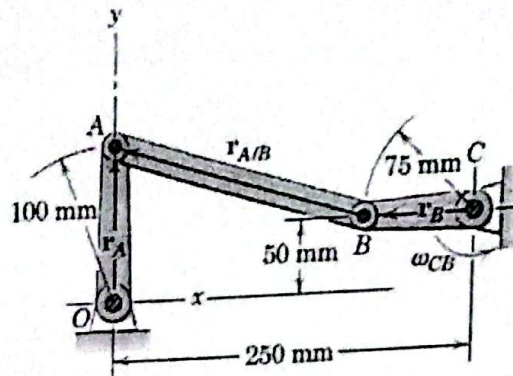

Figure 4. Ripple effect of Cranks pinned at C and O .
- Q4:** Crank CB oscillates about C through a limited arc, causing crank OA to oscillate about O as shown in Fig. 4. When the linkage passes the position shown with CB horizontal and OA vertical, the angular velocity of CB is 2 rad/s counterclockwise. For this instant, figure out the angular velocities and angular acceleration of links AB and OA for this position. Solve by using vector algebra.